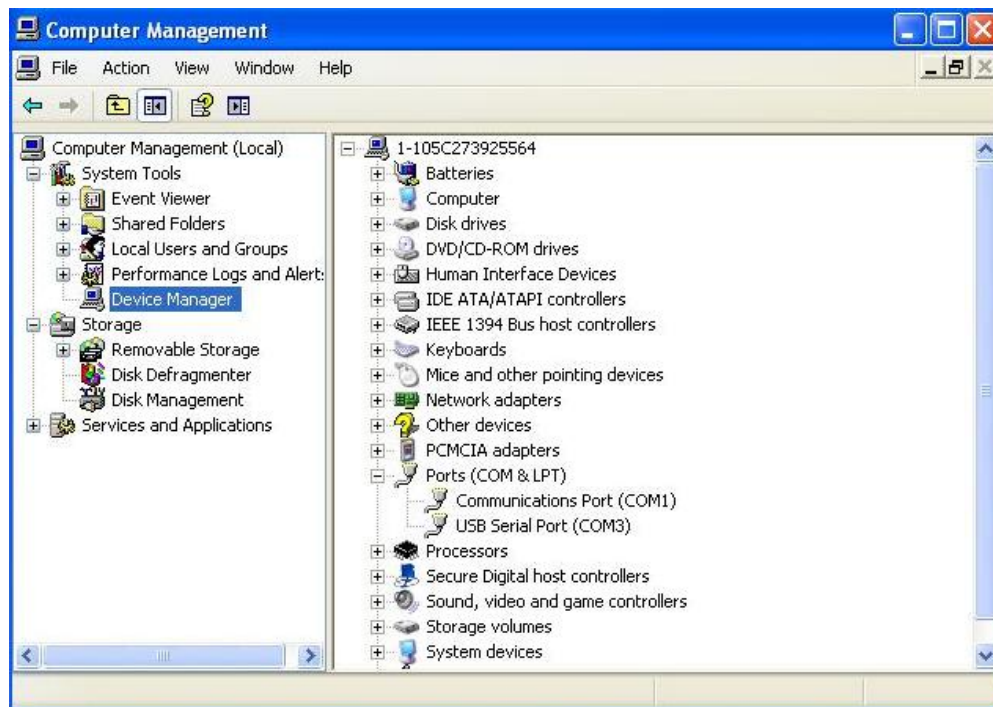
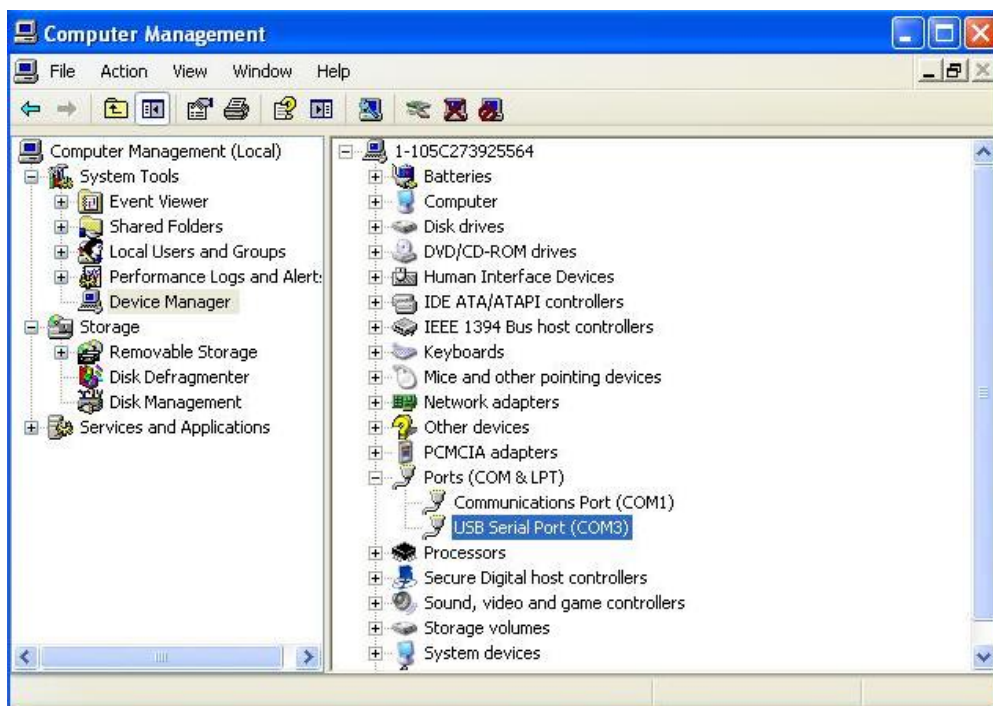

Fig.3.1.9 Device manager
Fig.3.1.10 USB serial port
- Click Device Manager in the pop-up window, as shown in Fig.3.1.9.
- Expand Ports branch of Fig.3.1.9, of which the USB Serial Port (Com 3) is the COM port connected to LPSDM, as shown in Fig.3.1.10.